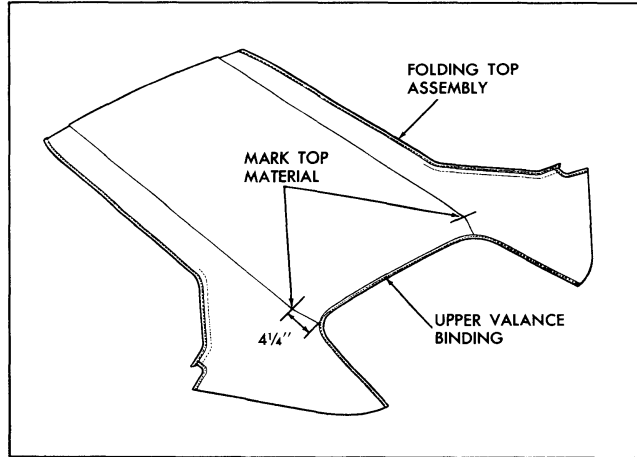

Fig. 22-46 Marking Top Material
25. Using a pencil, mark top material (mark should be approximately 1/2" in length) at deck seam 4-1/4" from edge of top material upper valance binding (Fig. 22-46).